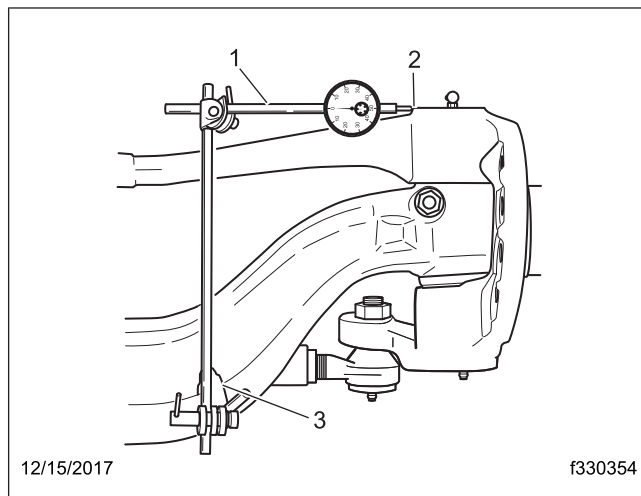

Fig. 26, Upper Bushing Inspection
1. For the **upper** bushing endplay verification, mount a dial indicator on the axle as shown in Fig. 26.